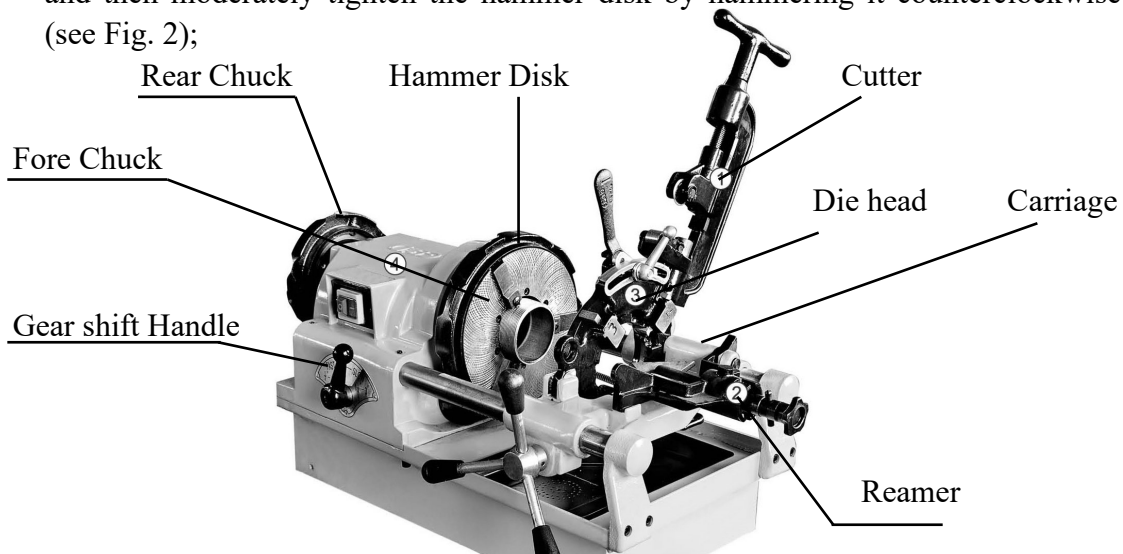

Fig. 2
3. Hold the pipe in right hand, and fix it by wheeling tight the fore and rear chucks, and then moderately tighten the hammer disk by hammering it counterclockwise (see Fig. 2);